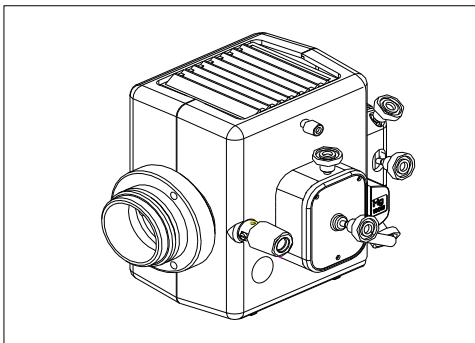
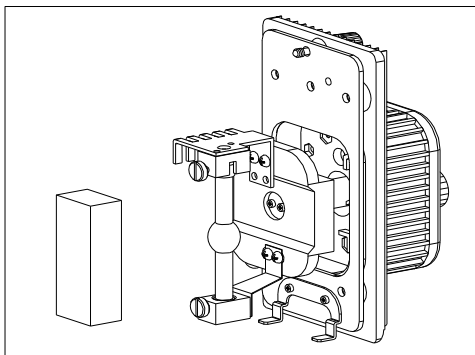

Fig 1
Fig 2
(fig.1, fig.2)
1. Loosen the burner socket clamping screw ① (fig.1), and remove the burner socket (fig.2).
2. After removing the foam backstop ②, securely insert the + pole (the wide head) of the specified mercury burner ③ to the lower terminal first and then the - pole (the thin head) to the upper terminal, then tighten the two socket clamping screws ④.
3. Close the burner socket with burner into the original position and tighten the socket clamping screw ①.